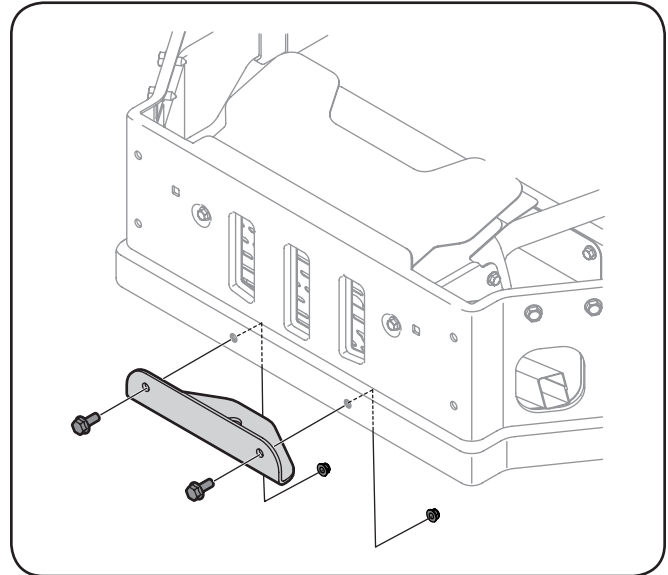

Figure 3-9
1. Remove the hex flange screws and flange lock nuts that secure the hitch bracket to the bumper. See Figure 3-9.